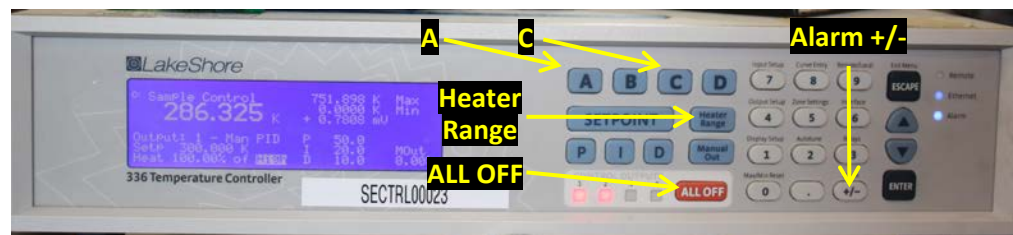

Figure 3. LakeShore336 controller
- d. In the sample pit, unplug the 12-pin connector from the stick (Figure 3). The LakeShore alarm will beep.